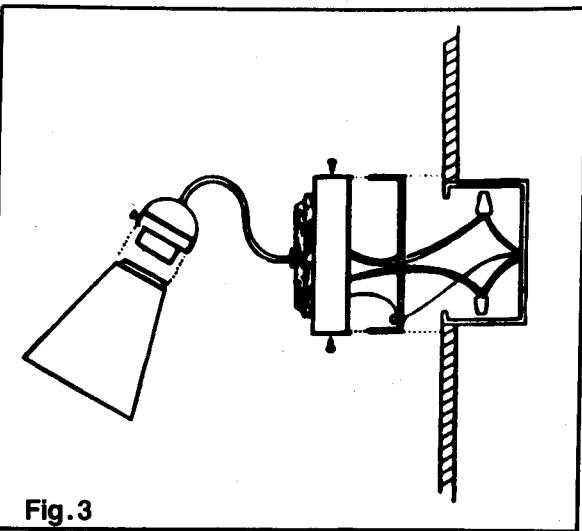

Fig. 3
3. Fasten the mounting bracket to the outlet box using the two screws supplied with the outlet box. If your fixture is supplied with a channel shape mounting bracket with keyhole slots for attachment to the mounting surface (see Fig. 3), it will be necessary to mark the location of the keyhole slots on the mounting surface and drill holes for fasteners (not provided). Use fasteners suitable for the mounting surface. The narrow end of the keyhole slot should face up.